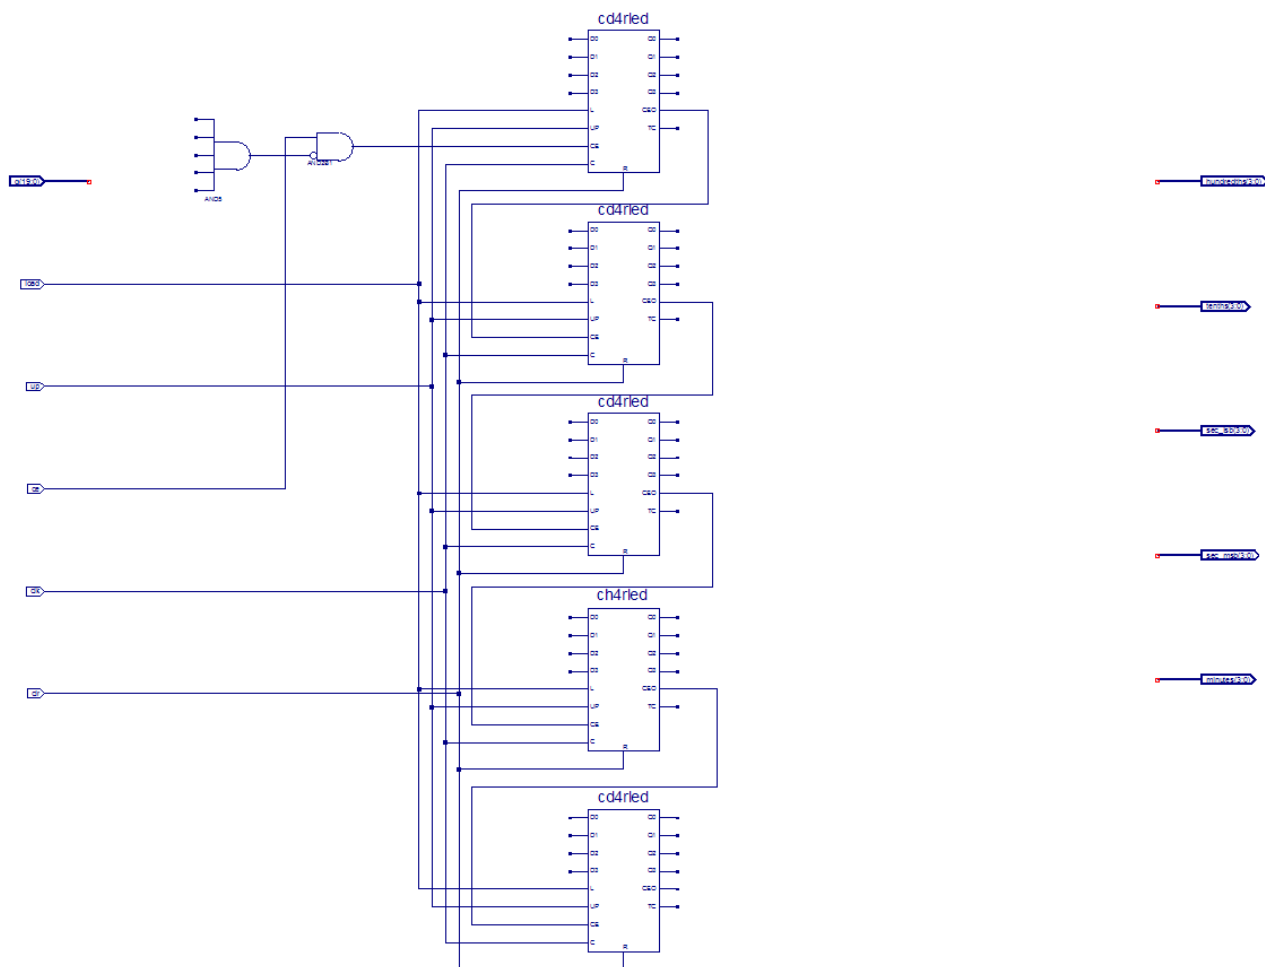

Figure 4-8: Partially Completed time\_cnt Schematic
Refer to Figure 4-8 for placement locations.
4. Connect the **load**, **up**, **clk**, and **clr** input I/O markers respectively to the **L**, **UP**, **C**, and **R** pins of each of the five counter blocks and connect the **CEO** pin of the first four counters to the **CE** pin of the next counter as shown in Figure 4-8.